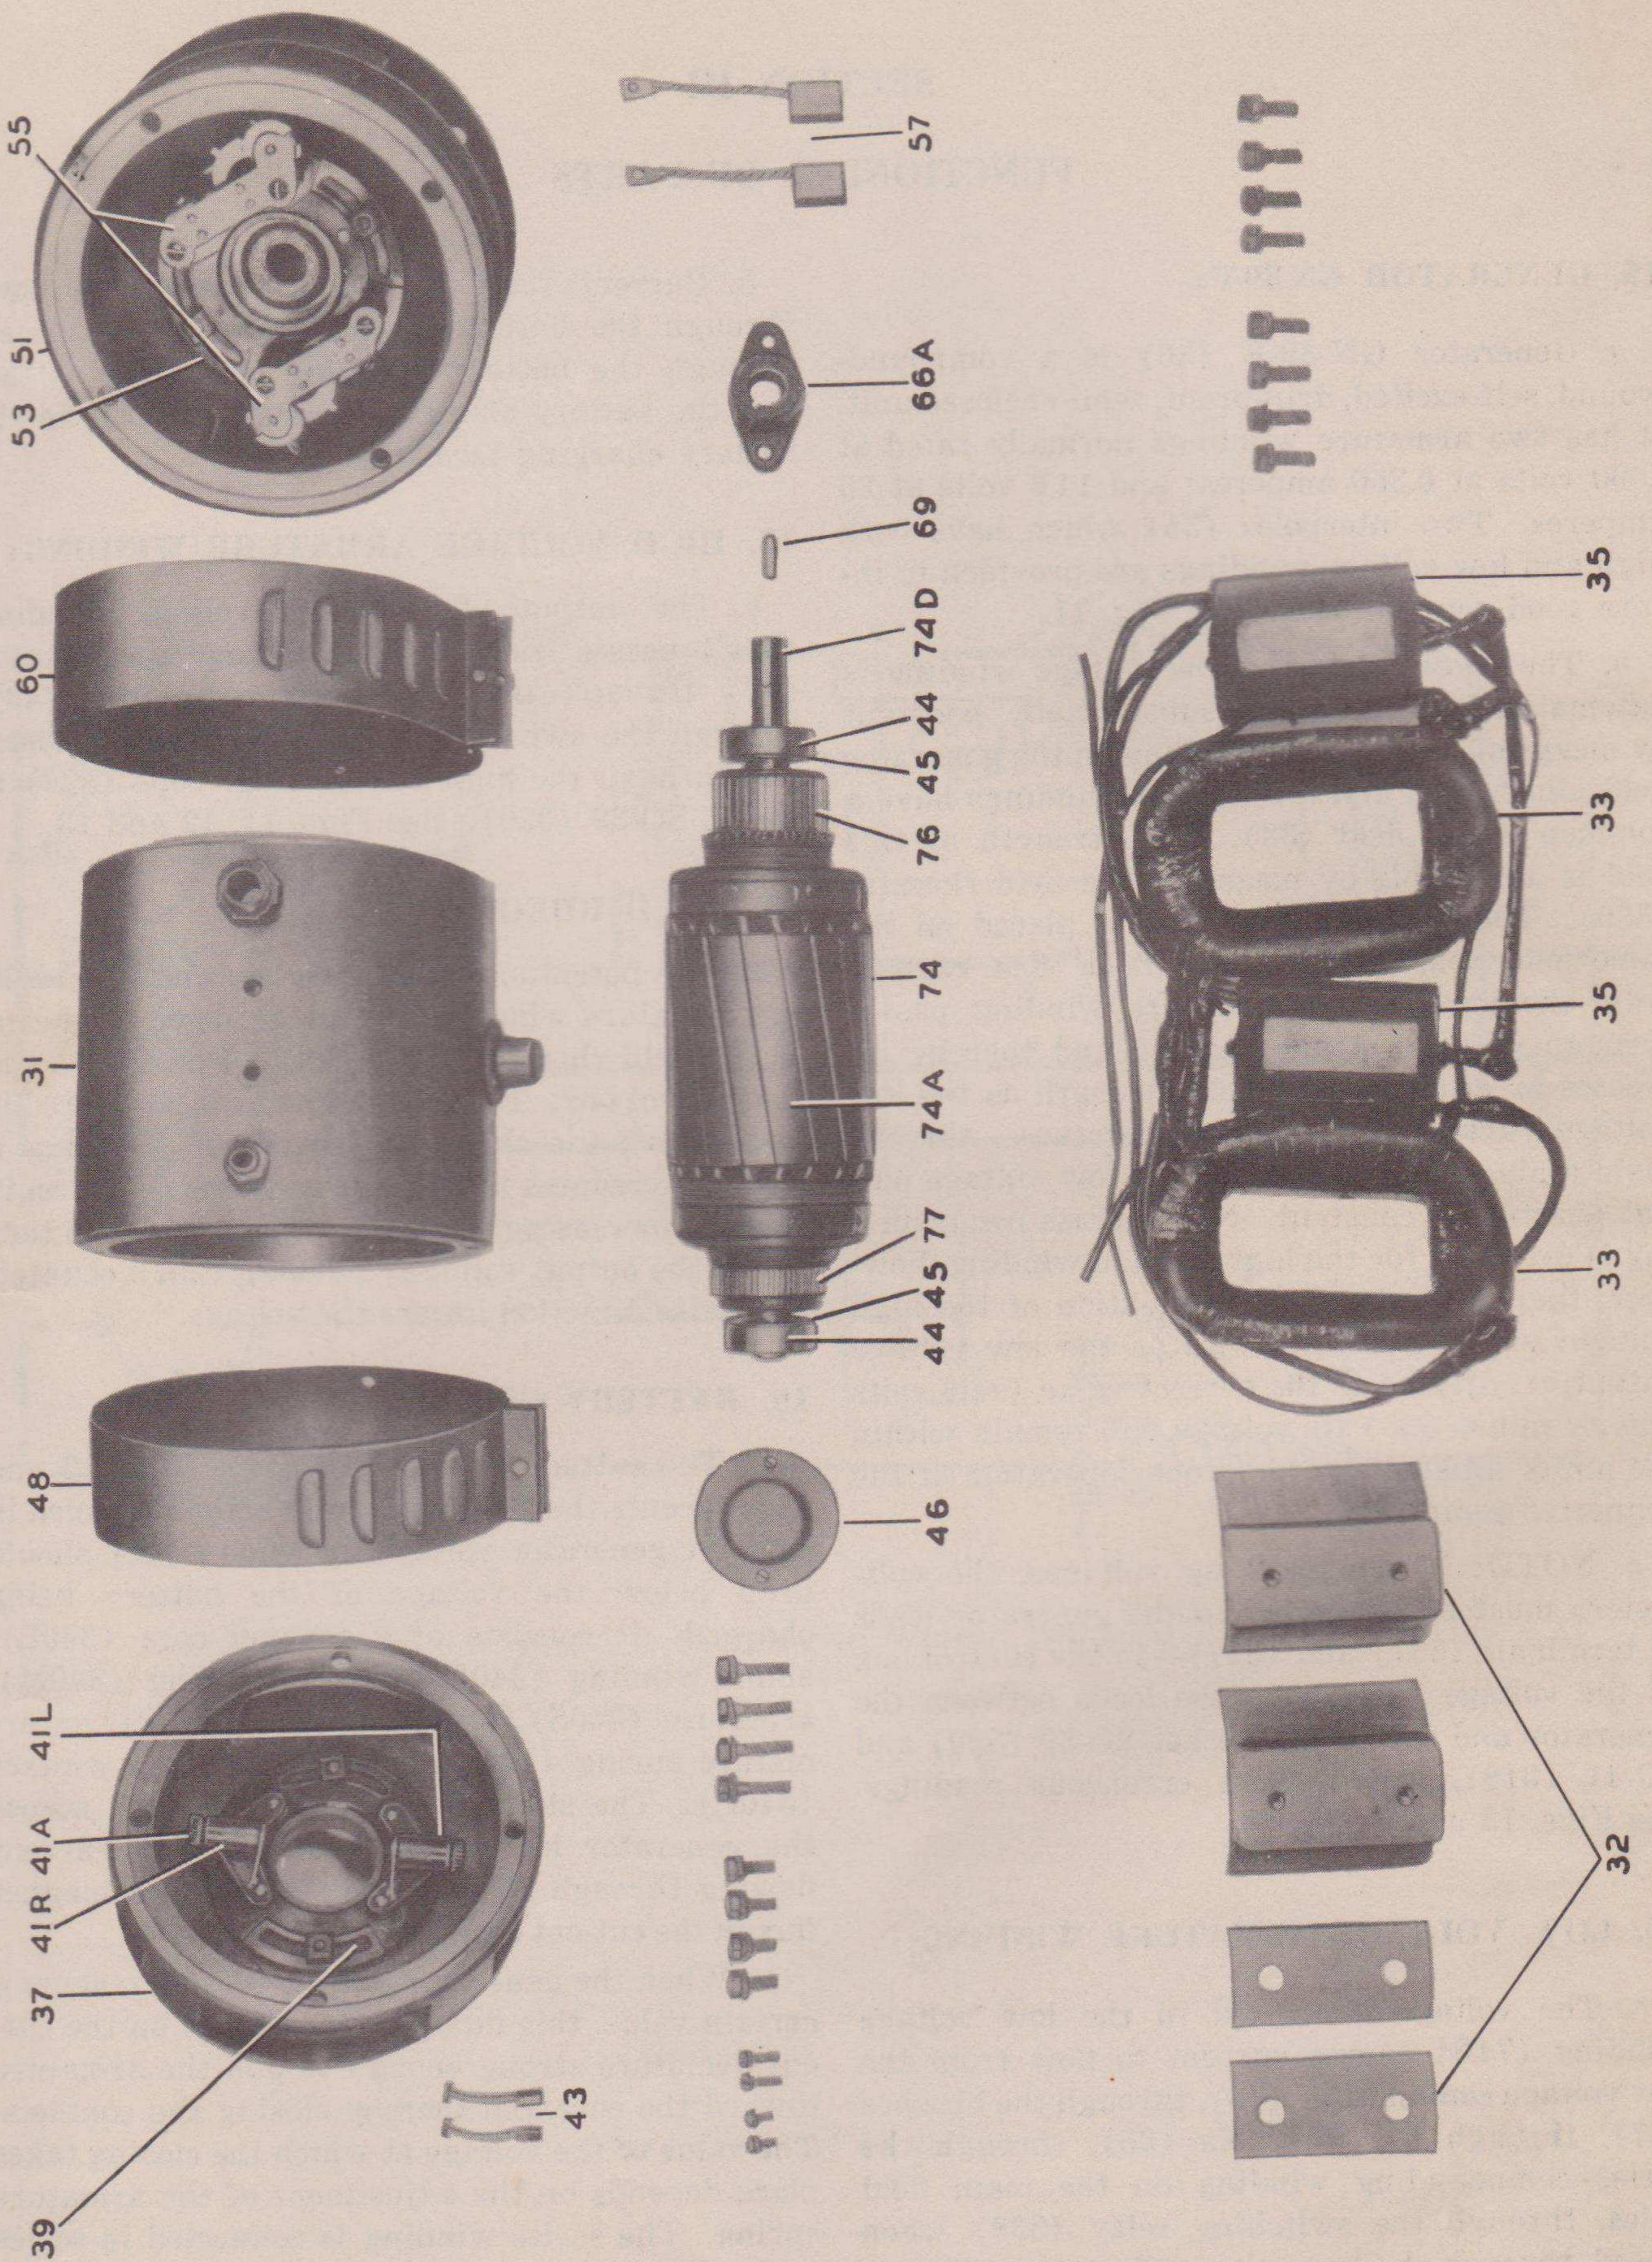
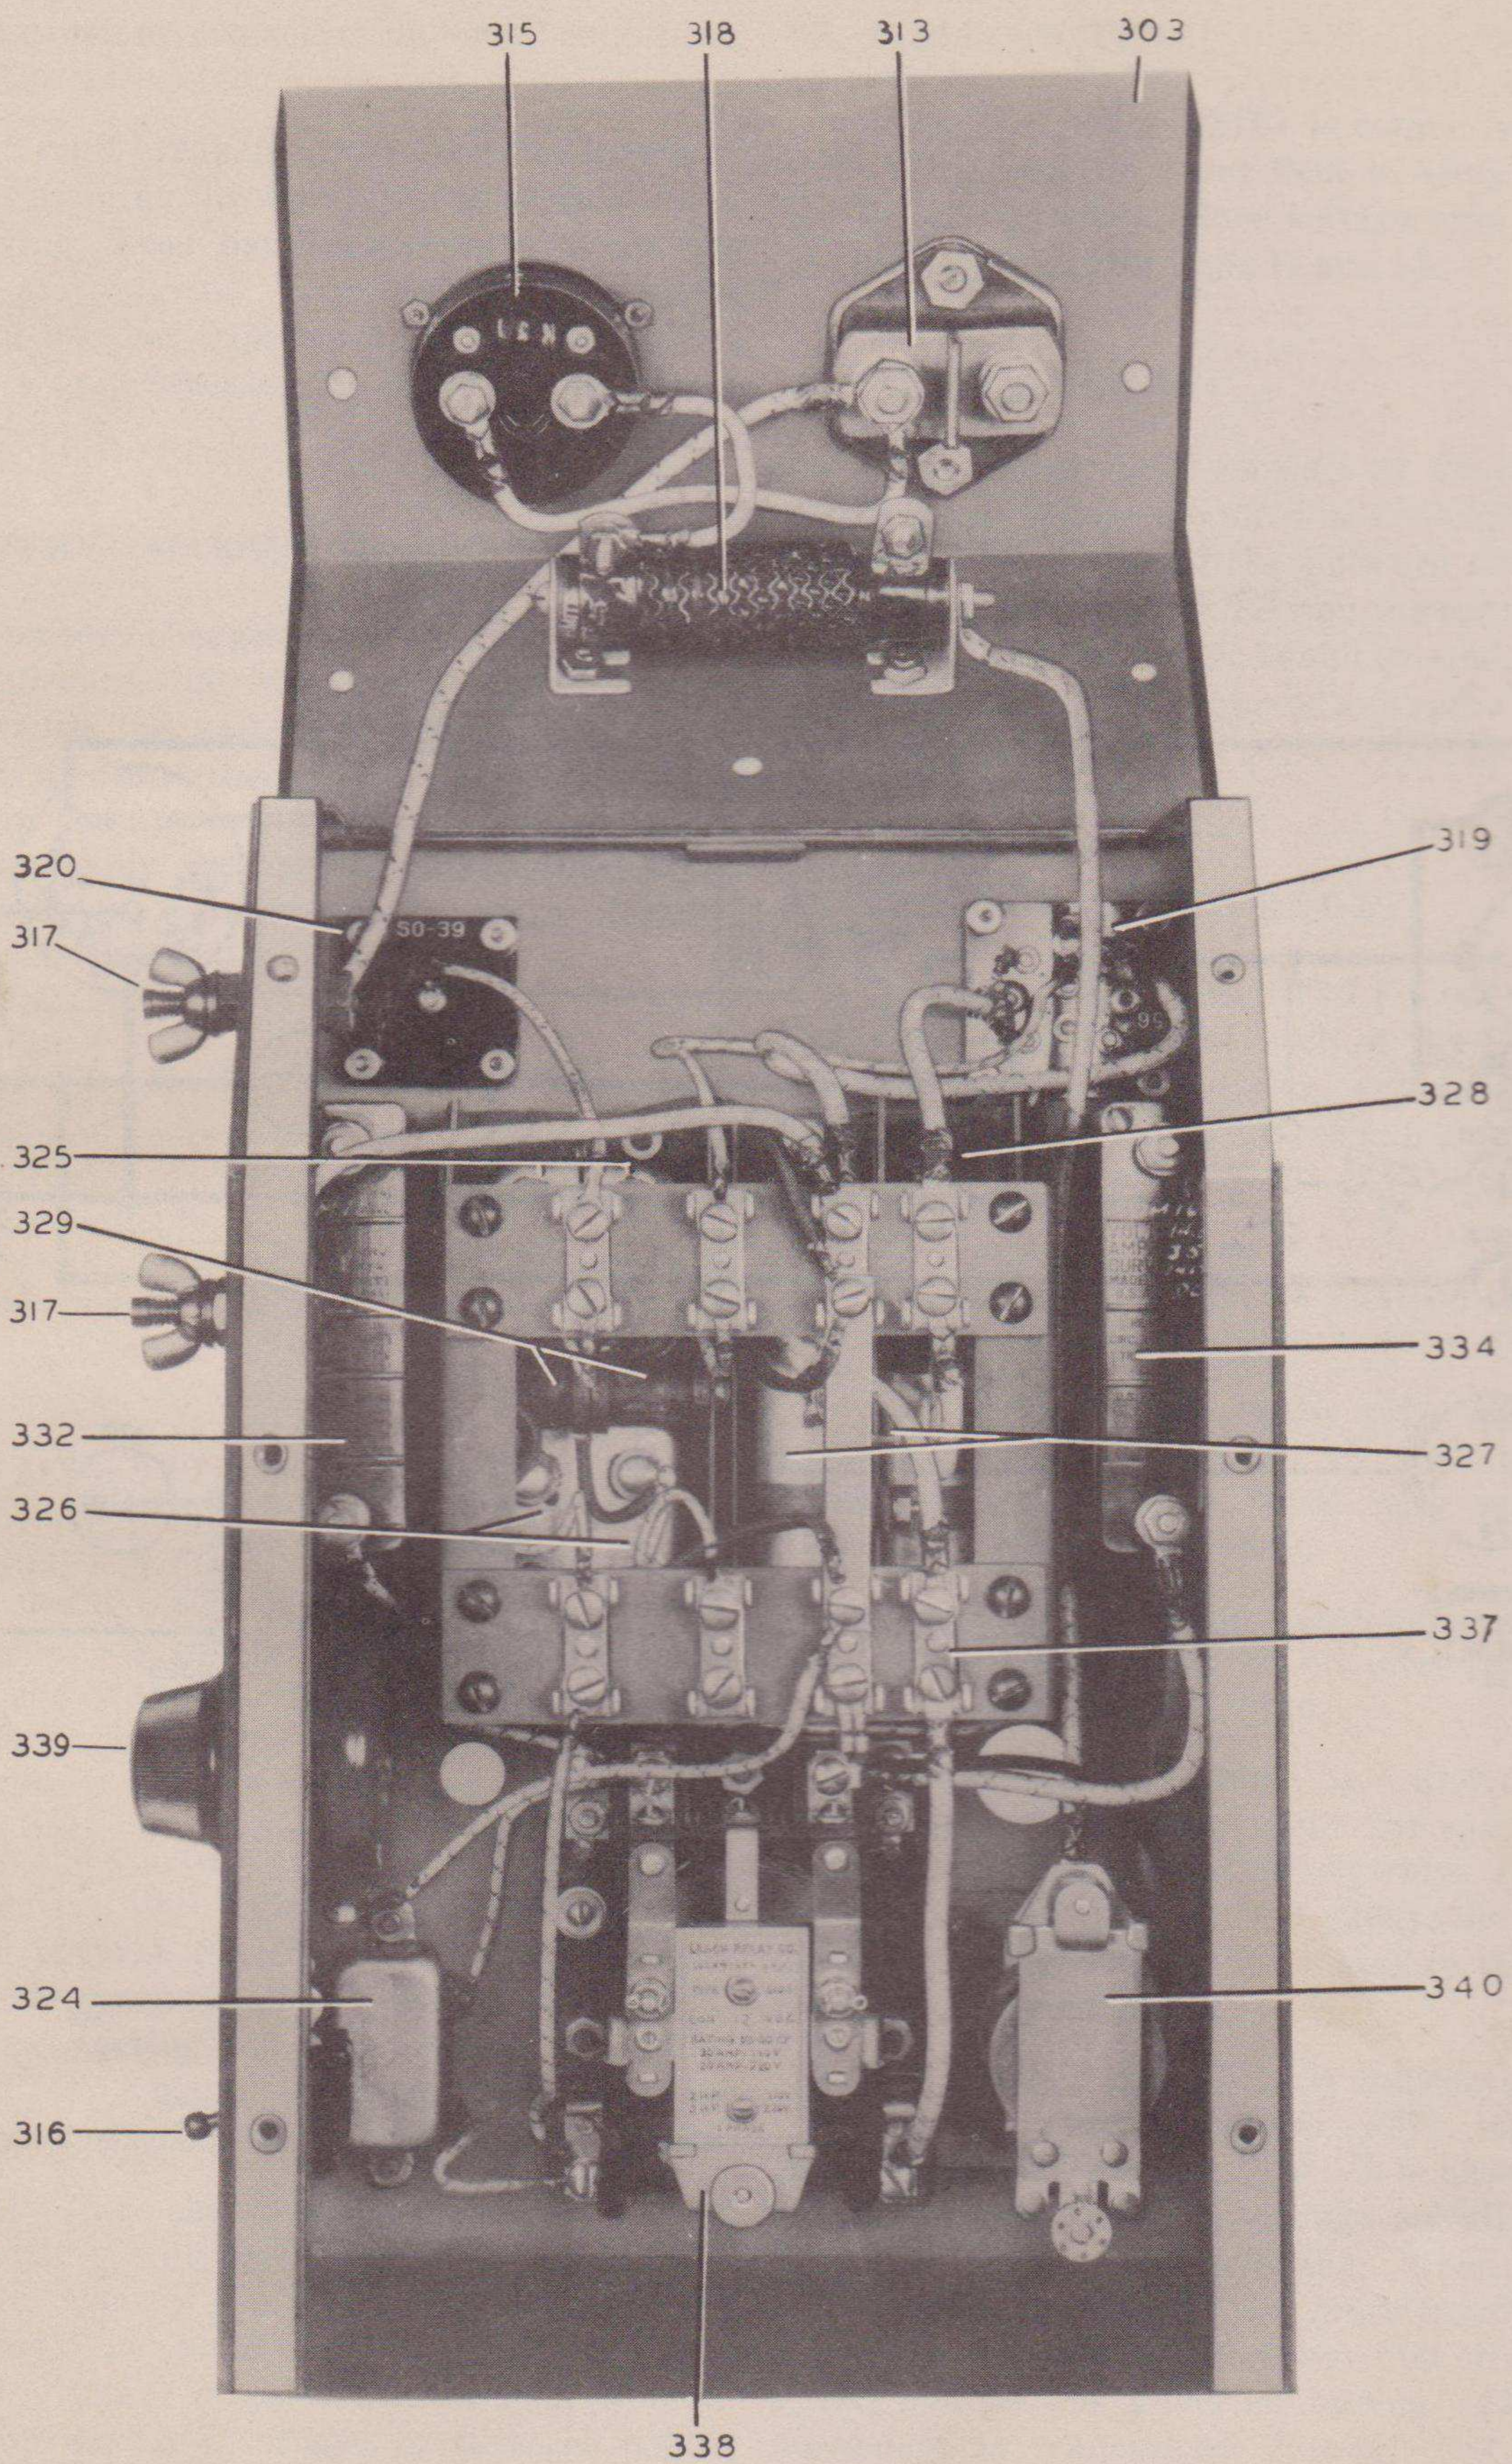

FIG. 11 GENERATOR GN-39-F—DISASSEMBLED
FIG. 13 CONTROL BOX WITH FRONT COVER REMOVED AND TOP COVER RAISED
a. Generator GN-39-F (30) is a compound-wound, self-excited, drip-proof, semi-enclosed unit. It has two armature windings normally rated at 1000 volts at 0.350 amperes; and 14.6 volts at 25 amperes. Two interpoles (35) which have both high and low voltage windings are provided to insure good commutation. See Fig. 11.
b. The potential of the low voltage winding is automatically maintained substantially constant by means of a compound winding on the generator field. Both high and low voltage windings have a common shunt field (33). The strength of this field is adjustable by means of the field rheostat (339). The compound winding is placed on the same field poles as the shunt field. The current from the low voltage armature winding passes through this compound winding and thereby increases or decreases the field strength as the low voltage current increases or decreases, thereby maintaining the potential of the low voltage output practically constant. No separate compounding is provided for the high voltage winding, however, the inherent voltage regulation of the high voltage winding is such that as the low voltage output is adjusted to the correct value (14.6 volts plus or minus 5%) its voltage will remain within the limits satisfactory for proper operation of the connected equipment.
c. NOTE: When checking voltages, the voltmeters must be connected to the generator leads at terminals (337) and (317)—in the control box as the voltage “drops” in the leads between the generator and the output socket SO-39 (320) and SO-41 (319), would cause erroneous readings. See Figs. 13 and 14.
a. The voltage generated in the low voltage winding (74B) causes current to flow from the low voltage commutator (76), through the brushes (57), through the interpole (35), through the series compounding winding on the main field poles, through the switching relay (338) when closed, through the low voltage filter coil (328) to socket SO-41 (319). See Figs. 11 and 12.
b. Current from the same source also flows through the battery cutout (340) when closed, through the battery charging resistance (318), and the battery charging ammeter (315), to the battery charging terminals (317).
a. The output of the high voltage winding (74C) passes from the high voltage commutator (77) through the high voltage brushes (43), through the switching relay (338), when closed, and through the high voltage filter coils (329) to socket SO-39 (320). See Figs. 11, 12 and 13.
a. The potential of both the low and high voltage armature windings can be adjusted by means of the field rheostat (339), located on the end of the control box. This field rheostat is connected in series with the shunt field winding. Turning it clockwise reduces the resistance in the field circuit, thereby increasing the field strength which in turn raises the output voltage. Turning it in a counterclockwise direction lowers the voltage.
a. The battery cut-out (340), see Figs. 13 and 16, prevents the generator from being damaged in case the generator voltage for some reason should drop below the voltage of the battery being charged. It consists of a magnet core (340L), shunt winding (340K), series winding (340M), armature (340S), with a contact (340P), an armature spring (340N), and a stationary contact (340Q). The shunt winding is connected across the generator low voltage output. The current flowing through this winding produces a magnet flux in the cut-out core.
d. For charging a 12-volt battery the cut-out should be set to close at approximately 13.5 volts. Turning the adjusting nut (340R) clockwise causes the cut-out to close at a higher voltage. No tools are required for adjustment and it is self-locking. NEVER CLOSE THE CUT-OUT BY HAND WHILE A BATTERY IS CONNECTED TO THE BATTERY CHARGING TERMINALS (317).
b. The switching relay (338), see Figs. 13 and 17, opens and closes the high and low voltage circuits to the filter. It is controlled from the transmitter operating position by means of a switch on the junction box. Only current passing through the sockets SO-39 (320) and SO-41 (319) are controlled by the switching relay. The battery charging circuit is independent of these circuits.
a. A circuit breaker (334) of 35 amperes rating is connected in the low voltage positive lead. This circuit breaker protects the low voltage armature winding from overloads and short circuits in the low voltage circuits.
b. Another circuit breaker (332) of .5 amperes rating is connected in the high voltage positive lead. This circuit breaker protects the high voltage armature winding from overloads and short circuits in the high voltage circuit.
a. The battery charging resistor (318), see Fig. 13, is a .25 ohm, 100 watts resistance connected in series with the battery charging circuit. Its function is to limit the current drawn from the low voltage armature winding to a safe value in case a completely discharged or short circuited battery should be connected to the battery charging terminals (317).
a. The starting switch (313) is connected between the positive side of the low voltage current and the series starting winding of the generator. The other end of the starting winding is connected to the negative low voltage brush (57) in the generator.
b. When the starting switch is pushed towards the control box (300) it closes the circuit described above and current flows from the battery connected to the battery charging terminals (317) through the starting winding and the generator armature (74). This causes the generator (30) to act as a motor driving the gasoline engine (100).
a. The field switch (316) is connected in series with the generator shunt field winding (33) and the generator will produce voltage only when this switch is closed. See Figs. 11 and 12.
a. The following servicing instructions have been compiled for the guidance of the operator charged with maintenance of the Power Unit PE-49-F. Thorough periodic inspection of the components will be of material aid in insuring maximum life and trouble-free performance. Accumulated dust and dirt should be blown or wiped away from all parts of the power unit. The enclosing covers (303) and (305) on the control box (300) should be kept tightly closed to prevent the entrance of dirt or moisture.
a. Grease sealed ball bearings (44) are used with lubricating grease sealed in at the time of manufacture. The space in the bearing housings (37) and (51) is, in addition, filled about one-third full with a supply of reserve grease. This insures a sufficient supply of lubricant for several years of operation. The action of this type of bearings is such that it siphons the lubricant through its seals from this reserve supply as needed. See Fig. 11.
b. Whenever the Generator GN-39-F (30) is disassembled the bearing housings should be re-packed one-third to one-half full with clean New York and New Jersey Lubricant Company S-58 grease, or equal.
d. THE BEARING HOUSINGS (37) AND (51) SHOULD NOT BE FILLED MORE THAN ONE-THIRD TO ONE-HALF FULL BECAUSE THE GREASE WILL CHURN DURING OPERATION AND CAUSE DANGEROUS HEATING. ALSO THE EXCESS GREASE WILL BE FORCED THROUGH THE BEARING SEALS ON TO THE COMMUTATORS (76) AND (77) AND WINDINGS WITH HARMFUL RESULTS.
e. WHEN DISASSEMBLING GENERATOR GN-39-F FOR ANY REASON DO NOT WASH THE LUBRI-SEAL BEARINGS (44) IN ANY KIND OF SOLVENT OR KEROSENE AS THIS
a. ALWAYS OPEN THE FIELD SWITCH (316) ON THE CONTROL BOX (300) BEFORE ATTEMPTING ANY WORK ON THE GENERATOR (30). DO NOT TOUCH THE COMMUTATORS (76) AND (77), BRUSHES (43) AND (57), BRUSH HOLDERS (41R), (41L) AND (55), WITH THE BARE HAND WHILE THE ARMATURE (74) IS REVOLVING WITH THE FIELD SWITCH CLOSED.
(1) To remove the high voltage brushes (43) remove the knurled brush screw caps (41A) and withdraw the brush assemblies from their cartridges (41R) and (41L). These brushes are complete assemblies of brush, shunt cable, spring and end plug and are removed and replaced as one piece. See Fig. 11.
d. The low voltage brushes (57) are removed by loosening the brush pigtail from the brush holders (55), lifting the brush holder pressure finger and pulling the brushes out of the brush holder box.